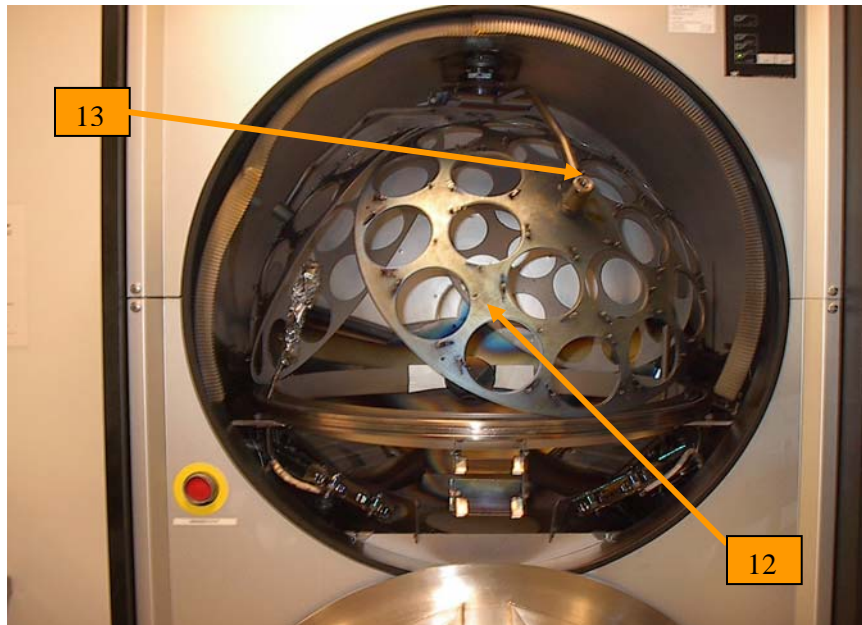

Figure 2
**Move** one planetary substrate holder (fig.2 - 12) to the front by rotating the planetary system manually by pressing the “motor” icon on the PC using the mouse. *OBS! The planetary speed knob (fig1. #4) should be set to 140.*
**Grab** the substrate holder and arm (fig2. - 12&13) and lift both straight up and out at the same time.